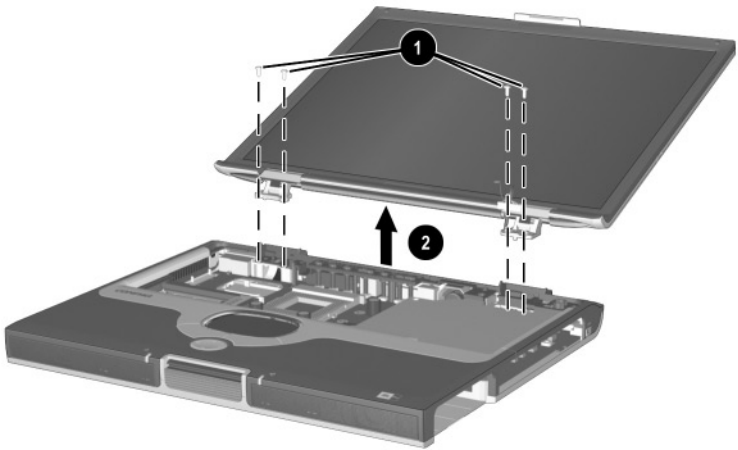

Figure 5-26. Removing the Display
9. Remove the four TM2.5 × 9.0 screws **1** that secure the display to the base enclosure (Figure 5-26).